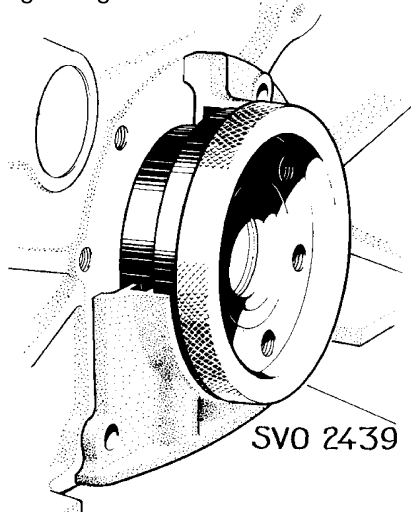

Fig. C7. Centering the rear sealing flange (4-cyl. engine)
4. Centre the flange with centering sleeve SVO 2439, see Fig. C7. Rotate the sleeve while tightening the bolts and adjust the location if the flange jams firmly. Check to make sure that the flange lies flush against the underside of the block.